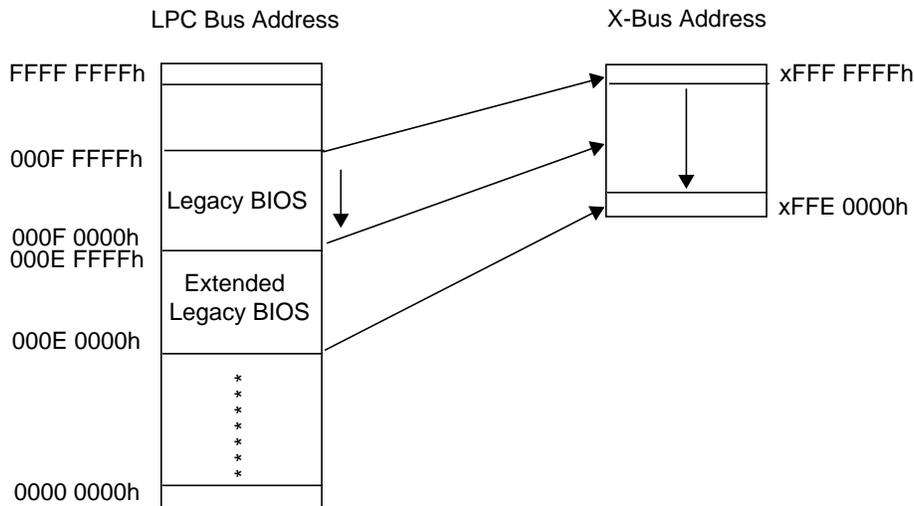

Figure 14. LPC-to-X-Bus Address Translation: Legacy and Extended Legacy BIOS Ranges
- Legacy and Extended Legacy BIOS Range: The 17 least significant address lines (A16-0) of the LPC address are routed as the 17 least significant address signals of the X-Bus (XA16-0). The upper 11 X-Bus address lines are driven to '1'. This shifts the addresses to the top of the X-Bus memory space (see Figure 14).